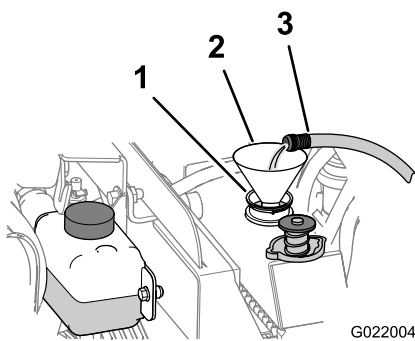

Figure 83
- B. Fill the radiator with clean water (Figure 83).